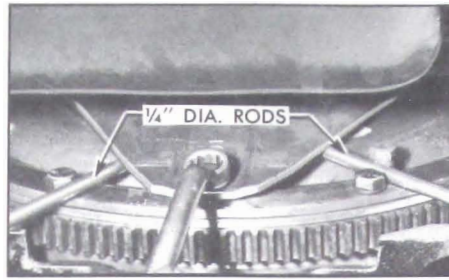

Figure 2-47—Bending Flywheel Leg Toward Pump Cover
3. If more than .010" clearance exist between flywheel and pump cover insert two 1/4" diameter rods between cover and flywheel as shown in Figure 2-47, tighten attaching bolt to bend flywheel into correct contact with pump cover. Remove rods and check results.